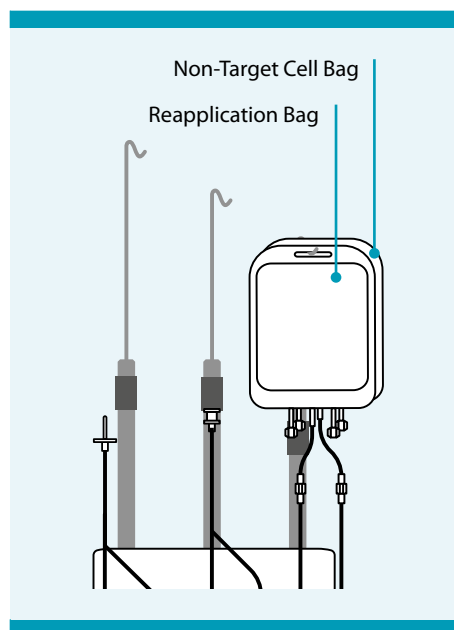

Figure 7.13: Attach Non-Target Cell Bag and Reapplication Bag
1. Attach the Non-Target Cell Bag and the Reapplication Bag to the right hand bag hanger on the instrument (see Figure 7.13).